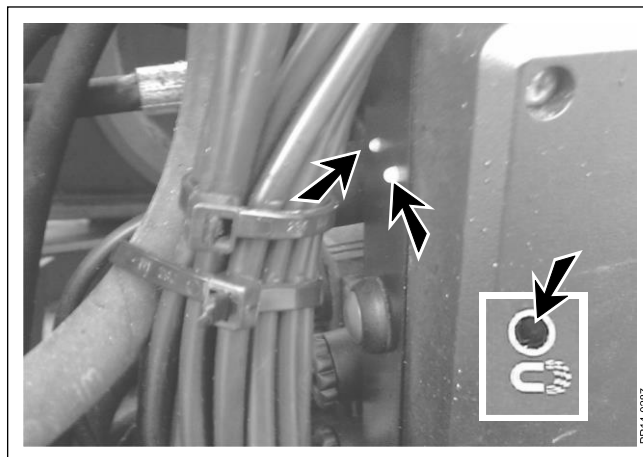

Fig. 5-7
- Fig. 5-7** When the control unit is switched on and the metal detector is on, the two control lights on the MD control unit and the light on the control box will be illuminated.
5. METAL DETECTOR (MD)